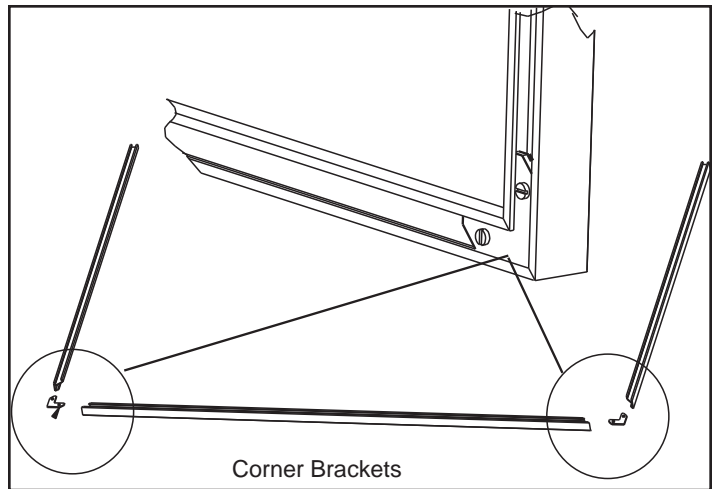

Figure 20.2
4. Using a standard flat screw driver tighten the corner brackets. **Figure 20.2.**